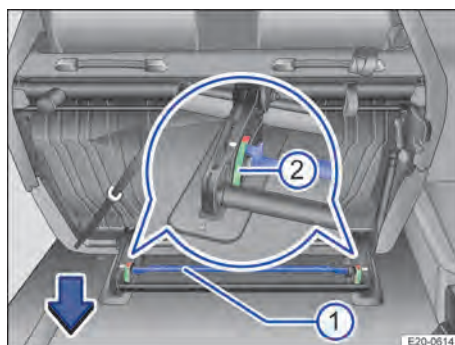

Fig. 69 Second row of seats: Installing the two-seat bench.
2. Press the rods → Fig. 69 ① downwards in the direction of the arrow until both locking marks ② are in the green area.